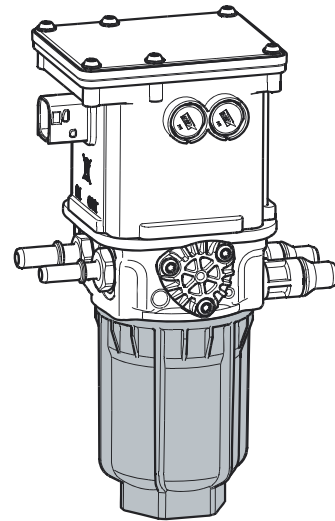

Figure 20 Replace Filter Housing
9. Reinstall the filter housing. See Figure 20. Use a 46 mm socket. Tighten to 59 lb-ft (80 Nm).